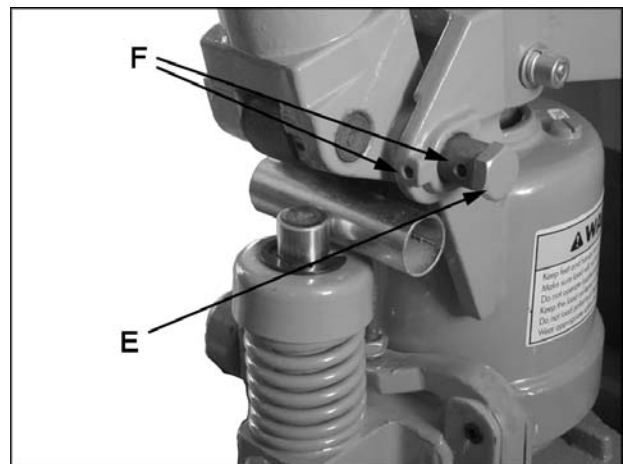

Fig 2
4. Insert handle pins (E, Fig. 2) into the holes of the pump bracket and handle. Align the spring pin holes (F, Fig. 2) in the handle pin and the pump bracket.